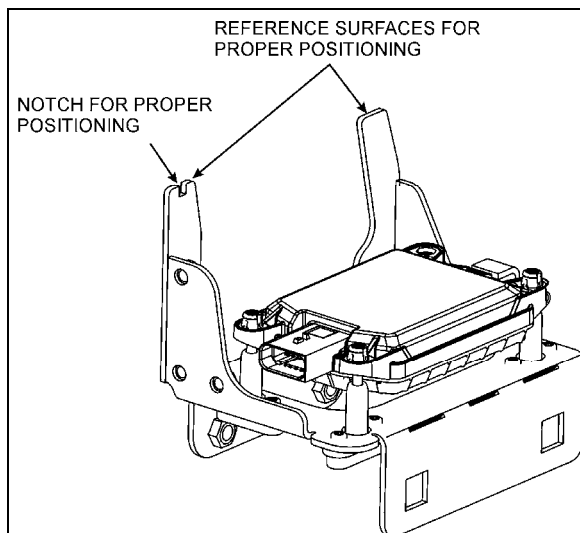
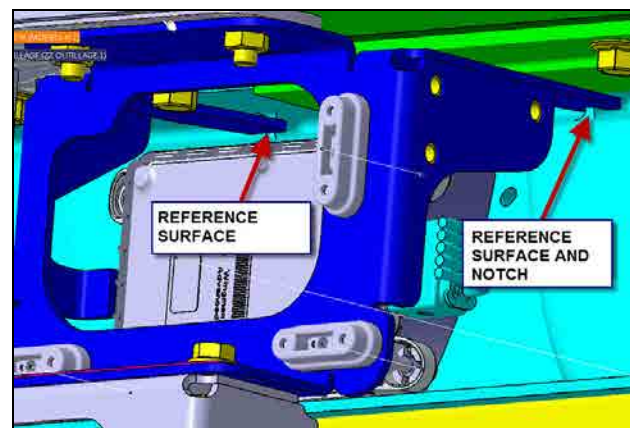

FIG.7: H3 SERIES
FIG.8: H3 SERIES
3. Plug radar sensor harness and install the new radar sensor and support assembly similarly as the previous installation. Make sure that the reference surfaces lean against the bumper structure and the notch in the radar support is at proper position (fig.7 & fig.8).